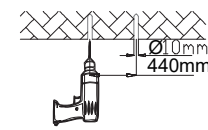

Figure 1-2
1. Use a chalk or sharp tool to mark signs on the top of the ceiling, then drill holes on the signs by electric drill (Figure 1-2).